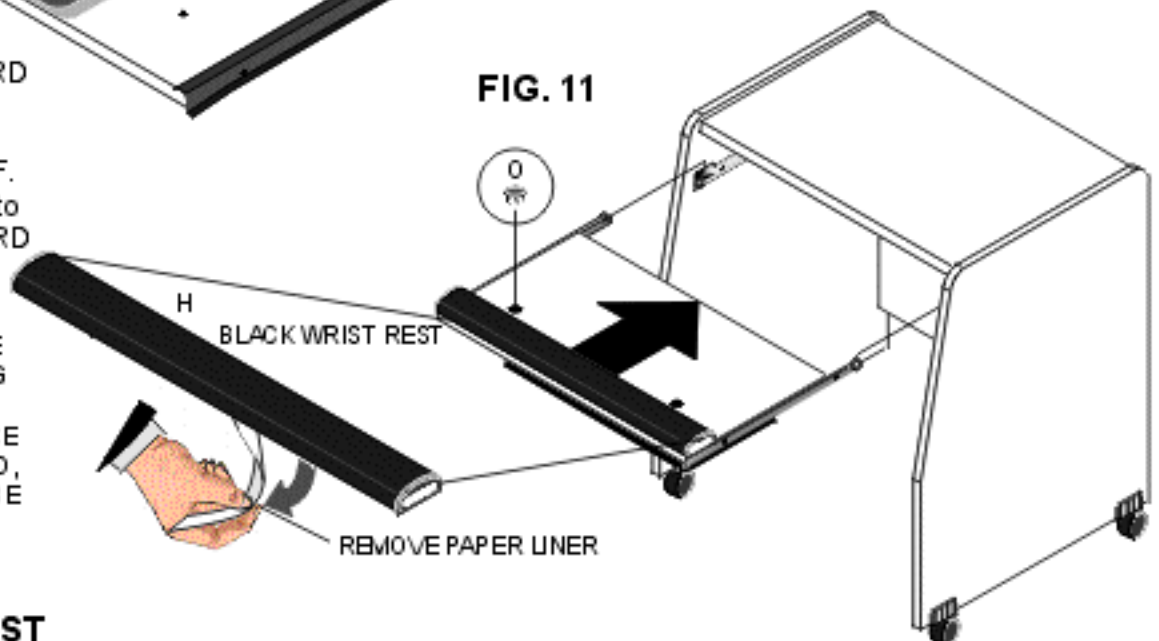

FIG. 11
Align RAILS on KEYBOARD SHELF with RAILS on cabinet SIDES. (FIG. 11) Install KEYBOARD SHELF. Insert (1) cover cap (O) into unused hole on KEYBOARD SHELF.
Remove paper liner from adhesive strip on the back of WRIST REST (H). (FIG. 11) Carefully align WRIST REST along front edge of KEYBOARD SHELF - centering it from side to side. Press WRIST REST onto shelf to secure.